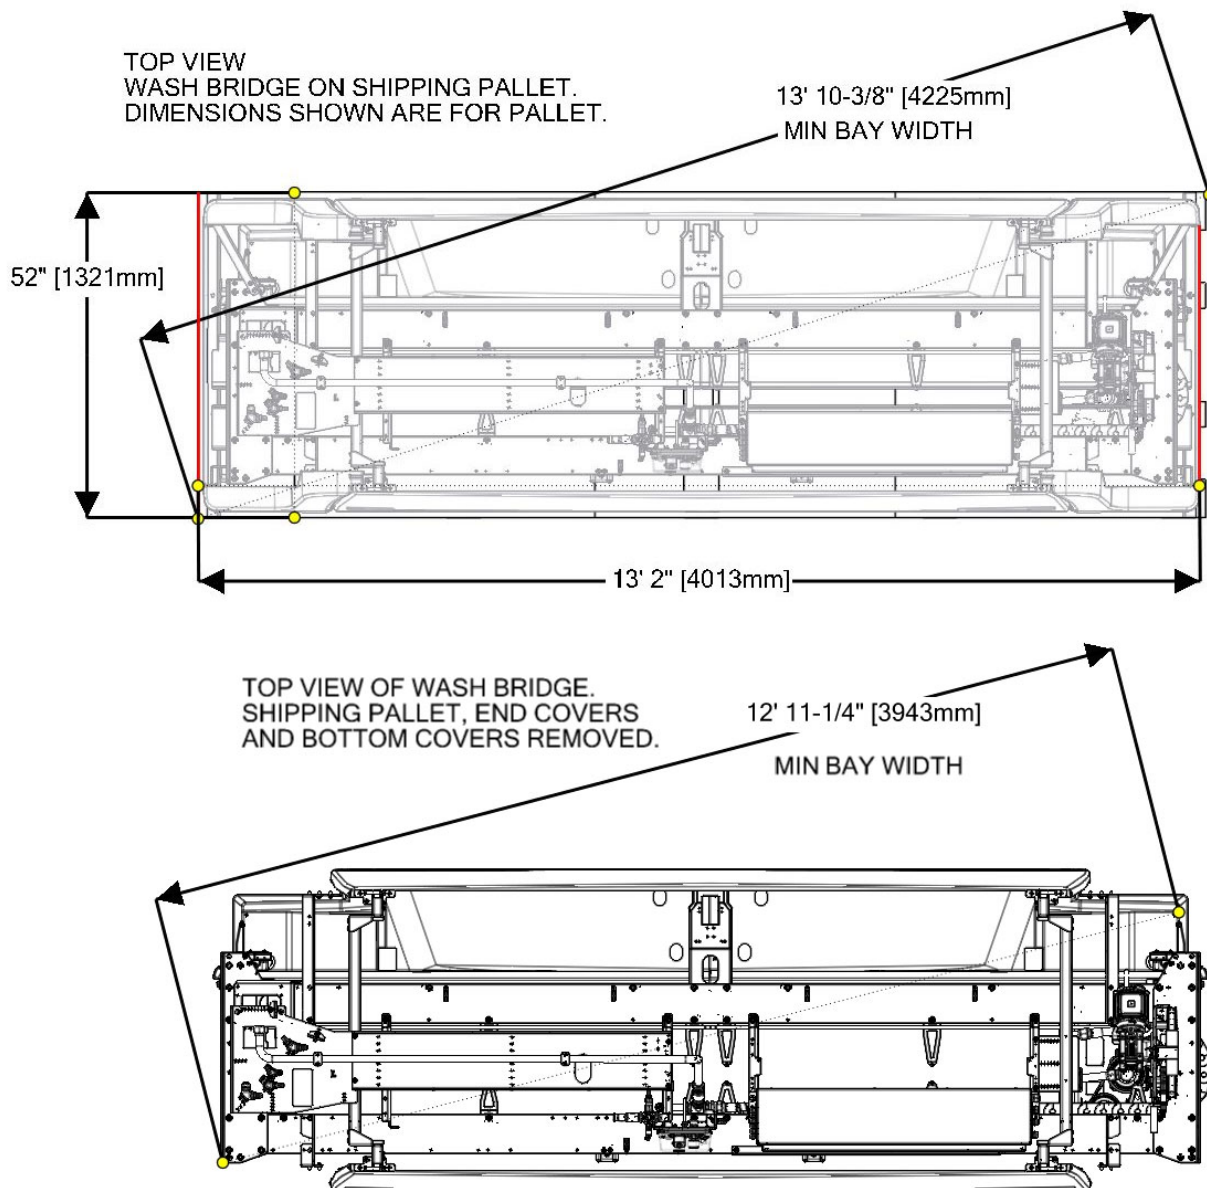
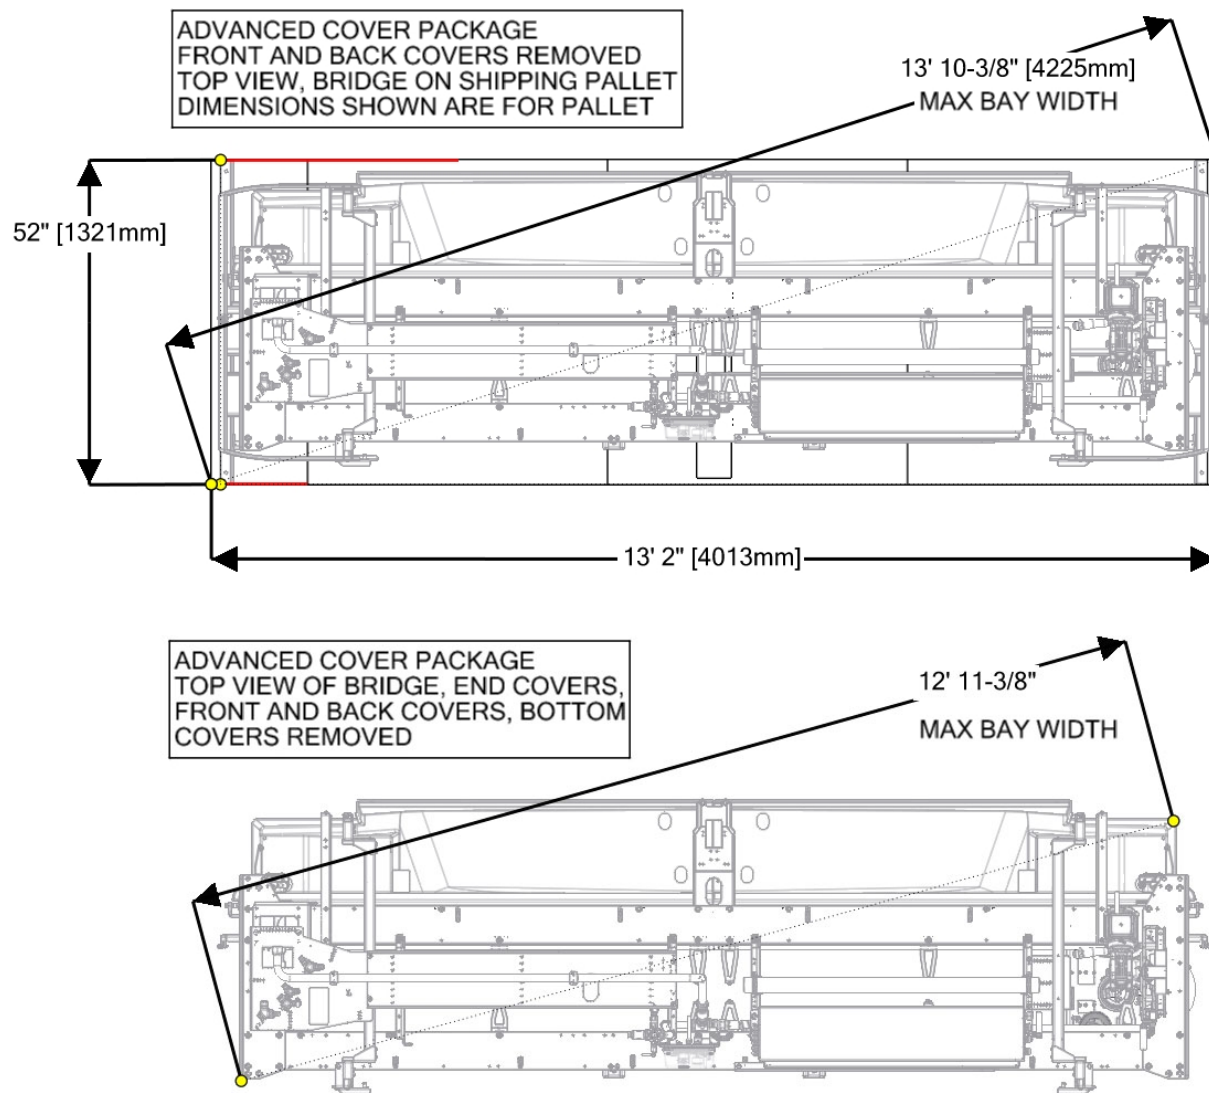

Figure 54 - Bay Width Dimensions Required for Bridge Installation, Standard Covers
Figure 55 - Bay Width Dimensions Required for Bridge Installation, Advanced Covers
- The bridge requires a 14' (4.27 m) wash bay width to rotate it 90° while inside the wash bay, after moving the bridge through the bay doors. See Figure 54 and Figure 55 for bay width dimensions in this case.
- When the wash bay width is less than 14' (4.27 m) and the bridge needs to be rotated within the bay, components must be removed prior to rotating. The bridge must be removed from the shipping pallet and will therefore not be lifted using the shipping pallet. See Figure 54 and Figure 55 for bay width dimensions.